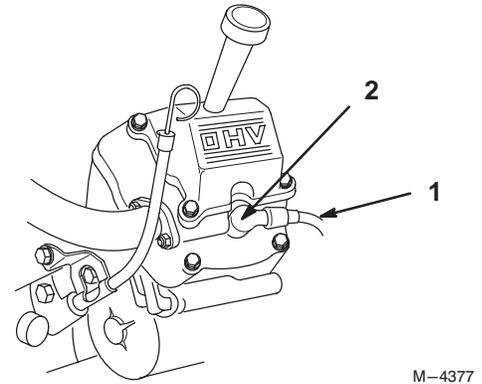

Figure 44
2. Clean around the spark plug(s) to prevent dirt from falling into the engine and potentially causing damage. Pull the wire(s) off the spark plug(s) (Fig. 44).
3. Push the wire(s) onto the spark plug(s) (Fig. 44).